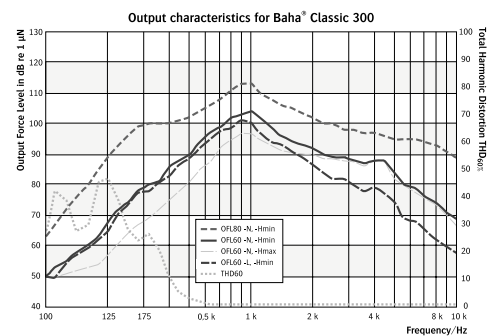

Fig. 21 See page 37 for larger scale.
With the tone switch (2) the sound processor can be given either a normal frequency response (position N) or high frequency attenuation (position L, where L stands for low frequency emphasis) (see Fig. 21).